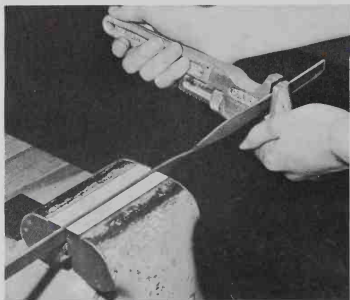

Fig. 4-64. Twisting metal with a wrench.
3. Place the metal to be twisted in a vise with one of the limit marks for the section to be twisted even with the outer edge of the vise jaw. Short pieces should be clamped in a vertical position, and long pieces should be clamped in a horizontal position. Clamp a monkey wrench at the other end of the section to be twisted, Fig. 4-64. The twist may be